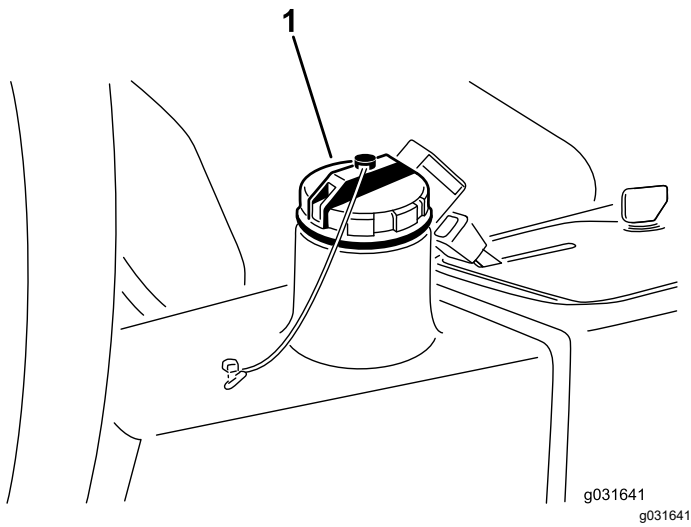

Figure 65
2. Clean the area around the filler neck and hydraulic-tank cap (Figure 65).
3. Remove the hydraulic-tank cap (Figure 65).